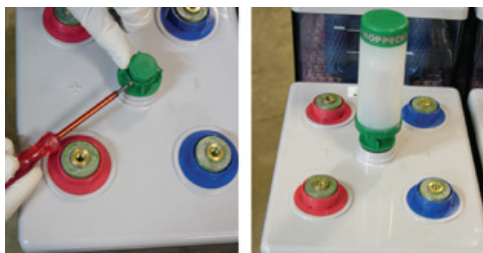

Fig. 5-14: Labyrinth plugs (left) and AquaGen® recombination system (right)
6. Hang both ring eyelets with the hoisting belt in the cross beam (Fig. 5-14). Always position the eyelets in the notches on the cross beam.